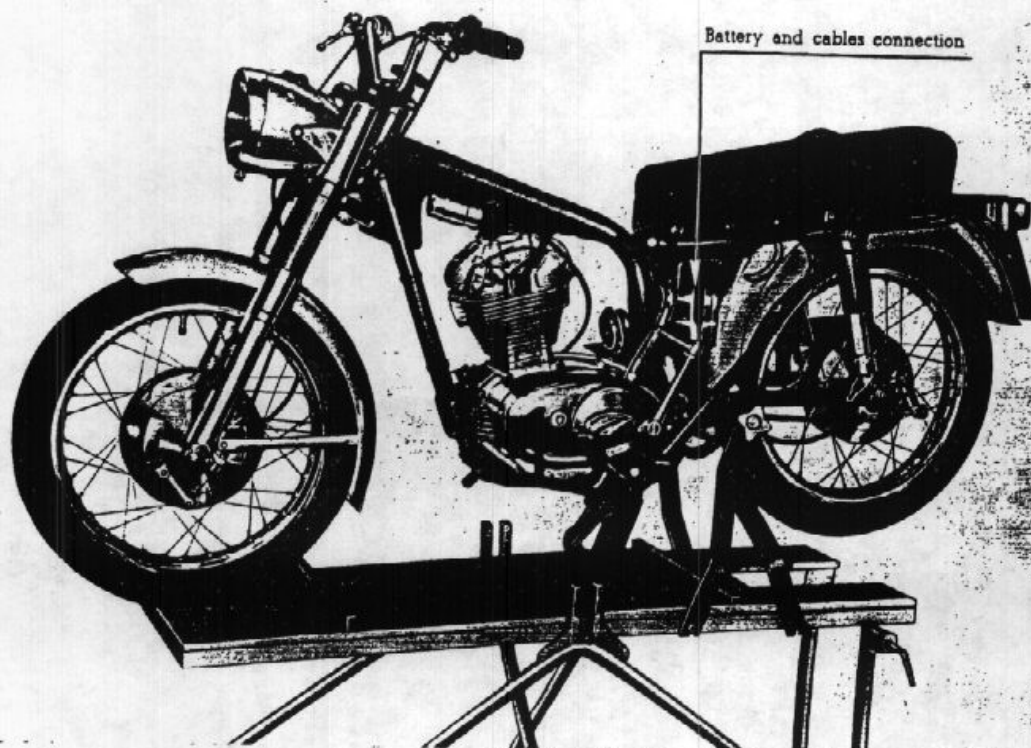

Fig. 132
**NOTE!** - The battery must always be installed with the positive pole (+) with red clamp on the righthand side of the rider, and the negative pole (—) with blue clamp on the lefthand side of the rider (see Fig. 132).